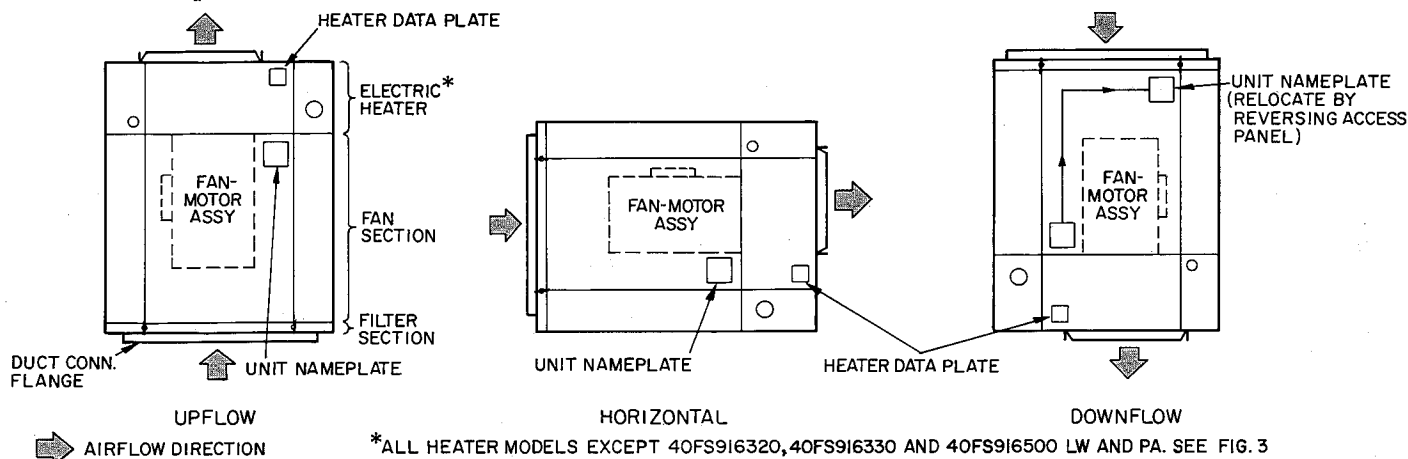

Fig. 2 — Heating Unit Assembly
Step 2 — Determine Position of Unit by Air-flow Direction — See Table 3 and Fig. 2, 3, 4 and 5. Ensure access panels on all units face front before and after unit assembly.
HEATING UNIT ASSEMBLY (Fig. 2)
Downflow Cooling Unit — Install as accessory downflow base under fan section to provide a "firebreak" in accordance with UL requirements. This base, which is a heater enclosure with no heating components in it, is shown in Fig. 4. Install base in the same manner as the heater as described previously in Heating Unit Assembly. Also see Fig. 2. The bases are used as follows:
Upflow and Horizontal Heating/Cooling Units — Position heating unit assembly (Fig. 2, 3) for upflow air direction and coil in upright position as shown in Fig. 5 and 7. Set heating unit assembly on top of cooling coil casing. Attach heating unit assembly to coil casing with 5 no. 10 hex head sheet metal screws provided. Clearance holes for screws
Downflow, Heating/Cooling Unit — When 40FS916320, or 40FS916500EH, GM, or HV heaters are used in this assembly, install accessory downflow support angles 40FS900241 to support fan section/coil weight as described on page 3. Turn fan section/electric heater assembly (Fig. 2, 3) over so fan discharges downward thru electric heater. Remove return air duct flange from coil casing.